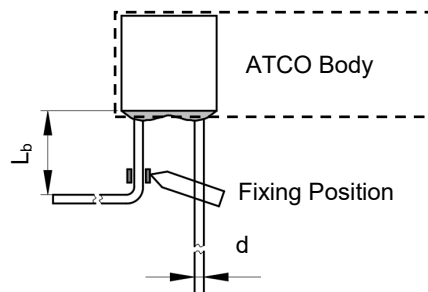

FIGURE T-2
2. When bending leads, please use pincher or similar tools to fix the product as shown in Fig.T-2, to avoid damaging the product.